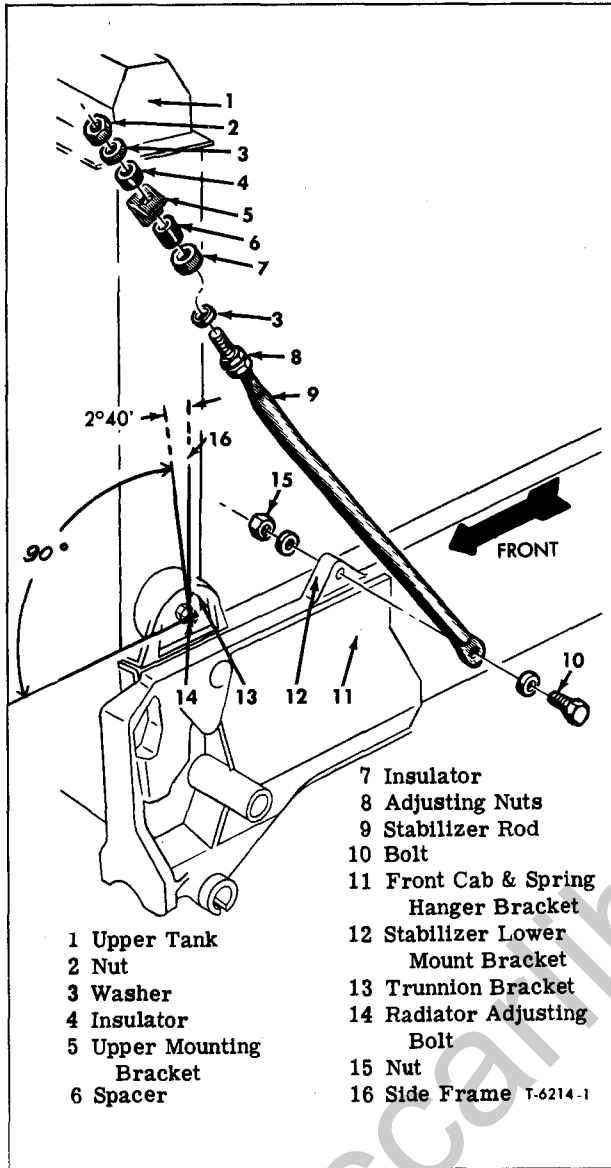

Figure 4—Stabilizer Rod and Components
The lower radiator support on 70 Series steel tilt cab models is bolted to a mounting bracket as shown in figure 4. Top of radiator is mounted on each side to the control island frame.
5. Remove upper nut, washer, and insulator from each radiator stabilizer rod (see fig. 4).
6. Attach a lifting sling or chain to each radiator upper mounting bracket (5, fig. 4).
4. Install upper insulator, washer, and nut on each radiator stabilizer rod. Tighten upper nut on each rod securely. Proper angularity of radiator is shown in figure 4.
5. Remove upper nut, washer and insulator from each radiator stabilizer rod (see fig. 4).
4. Install upper insulator, washer and nut on each radiator stabilizer rod. Tighten upper nut on each rod securely. Proper angularity of radiator is shown in figure 4.
NOTE: Referring to figure 4, on all radiators equipped with tie rods as shown, remove tie rod upper and lower mounting brackets (with tie rods attached to brackets). If tie rod assembly is damaged, replace components as necessary.
NOTE: The following procedure applies to all models equipped with trunion type radiator mountings as shown in figure 4.
Loosen both adjusting bolt lock nuts (14, fig. 4) at each side of radiator trunion mounting brackets. Back bolt out of mount in the direction of the desired movement. Thread bolt inward on opposite side of radiator until radiator is centered as desired. Make certain that both adjusting bolts are tight against radiator trunion, and that no slack exists. Tighten adjusting bolt lock nuts firmly.